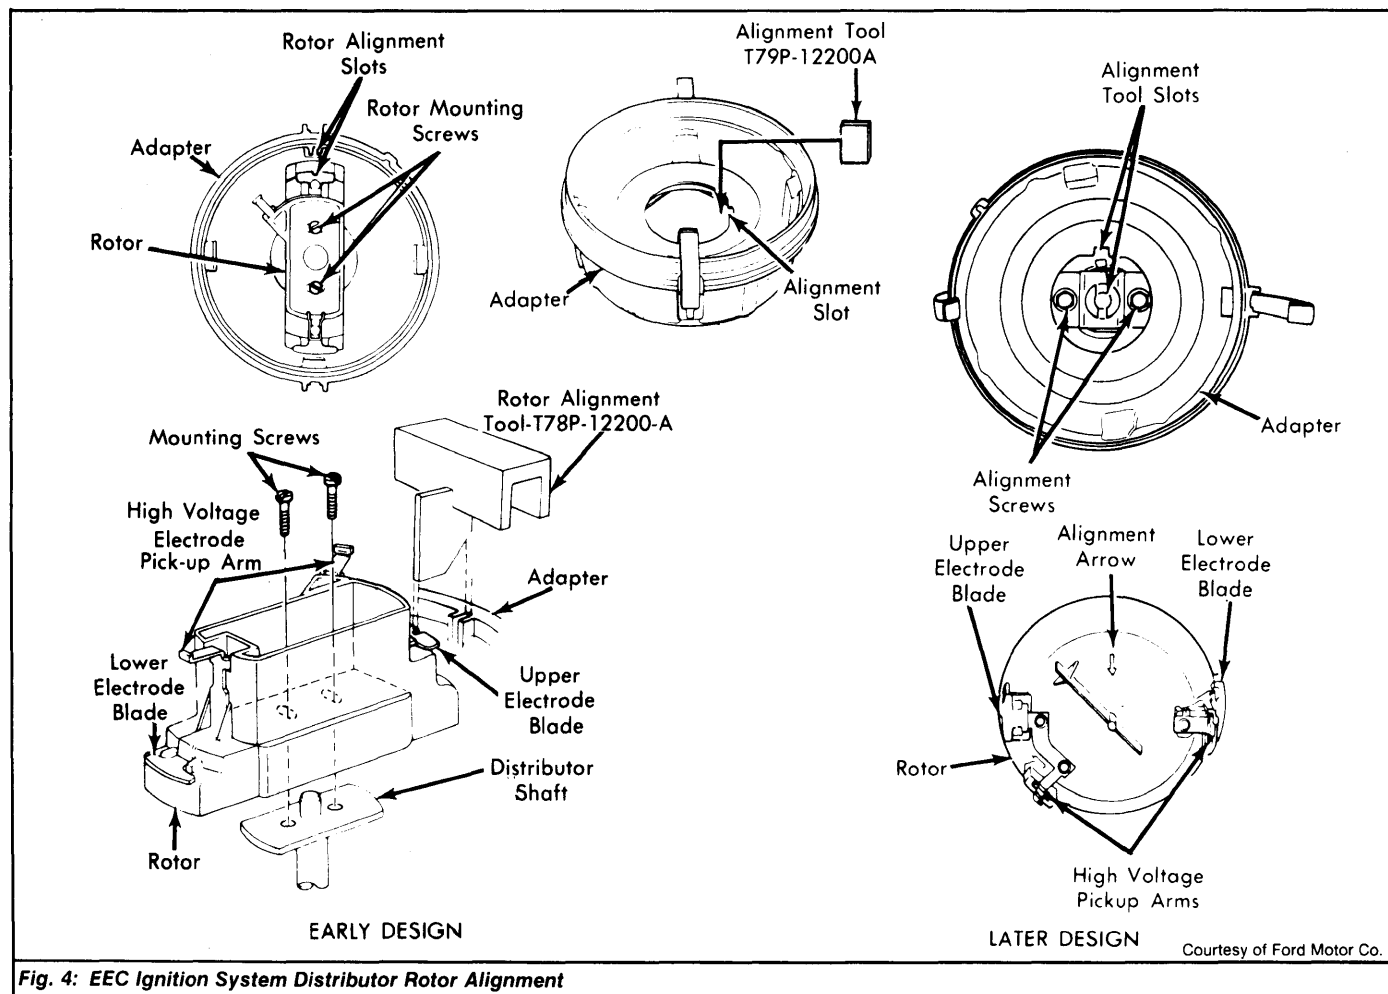

Fig. 4: EEC Ignition System Distributor Rotor Alignment
**Installation -** Position distributor in engine. Ensure that distributor base hold-down flange is aligned with clamp bolt hole. Slot in upper blade of rotor must be aligned with slot in adapter. If not, remove and rotate distributor as necessary. See Fig. 4.
**Removal (Mid 1979 & Later) - 1)** Remove distributor cap and rotor. Rotate crankshaft to TDC timing mark. The alignment slot in sleeve assembly should be lined up with slot in adapter. See Fig. 4.
**Installation - 1)** Position distributor in engine. Ensure that distributor base hold-down flange is aligned with clamp bolt hole. Slot in distributor sleeve assembly should be aligned with with slot in adapter. If not, remove and rotate distributor as necessary. See Fig. 4.